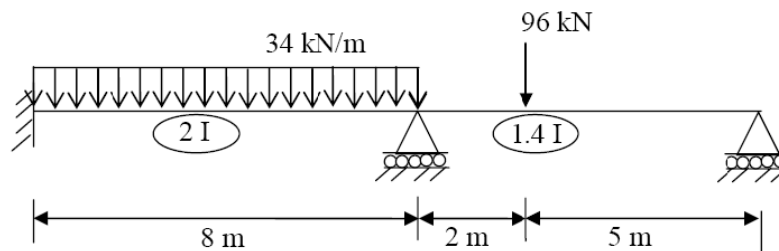

Figure 2
2. Analyze the continuous beam shown in Figure 2 using slope-deflection method, and draw shear force and bending moment diagrams. Locate and find the distances of the points of contra-flexure from supports. Draw elastic curve. [16]